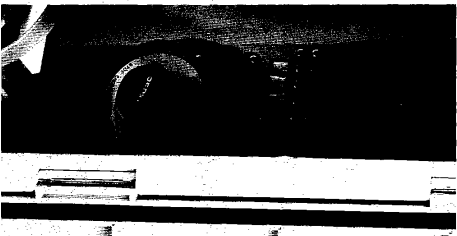

Figure 12
3. Put the battery main switch in the "On" position. See figure 12.